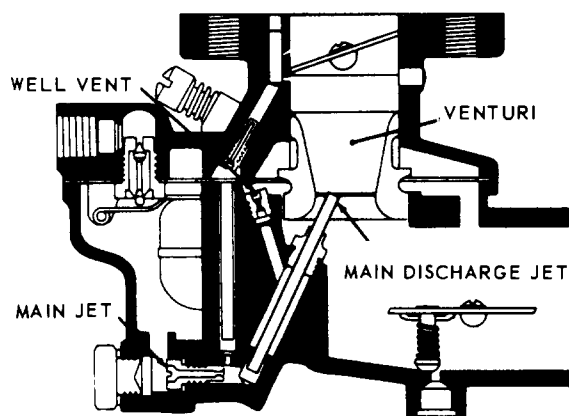

Fig. 3
**High speed system, Fig. 3,** controls the fuel mixture at part throttle speeds and at wide open throttle. This system consists of a venturi, controlling the maximum volume of air admitted into the engine; the main jet, which regulates the flow of fuel from the float chamber to the main discharge jet; the well vent, which maintains uniform mixture ratio under changing suction and engine speeds; and a main discharge jet, which delivers the fuel into the air stream.